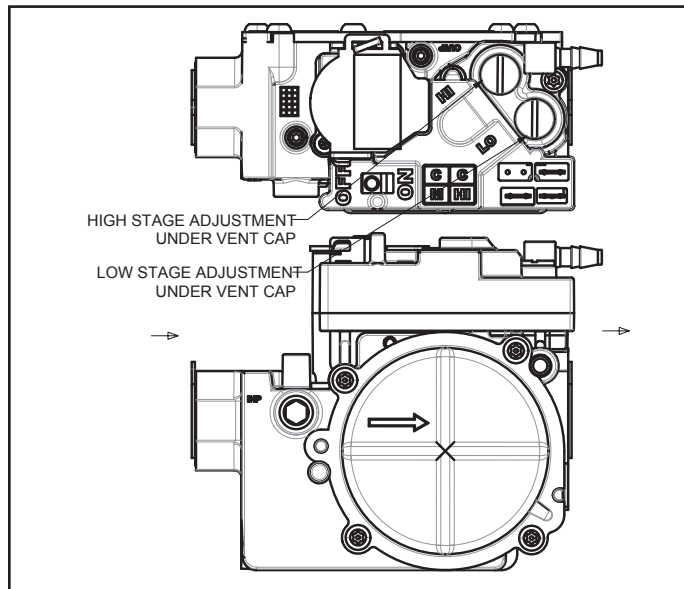

Figure 7. Gas Valve
- Slide the gas valve switch to the "ON" position (see Figure 7).
- Slide the gas valve switch to the "OFF" position (see Figure 7).
The manifold pressure can be measured by shutting off the gas, removing the pipe plug in the downstream side of the gas valve, and connecting a water manometer or gauge. **Under no circumstances should the final manifold pressure vary more than 0.3" w.c. from the above specified pressures.** To adjust the regulator, turn the adjusting screw on the regulator clockwise to increase pressure and input or counterclockwise to decrease pressure and input. See Figure 7 to assist in locating the regulator on the gas valve.
1. Slide the gas valve switch to the "OFF" position (see Figure 7).
4. Slide the gas valve switch to the "ON" position and initiate a call for heat. If manifold pressure must be adjusted, the gas valve has separate adjusting screws for first stage (LO) and second stage (HI) (see Figure 7). Turn the adjusting screws clockwise to increase pressure and input; turn counterclockwise to decrease pressure and input. The pressure regulator adjustment is sensitive. One turn of the adjusting screw results in a large change in manifold pressure. Final first-stage and second-stage manifold pressures must be within the allowable ranges for the gas being used.